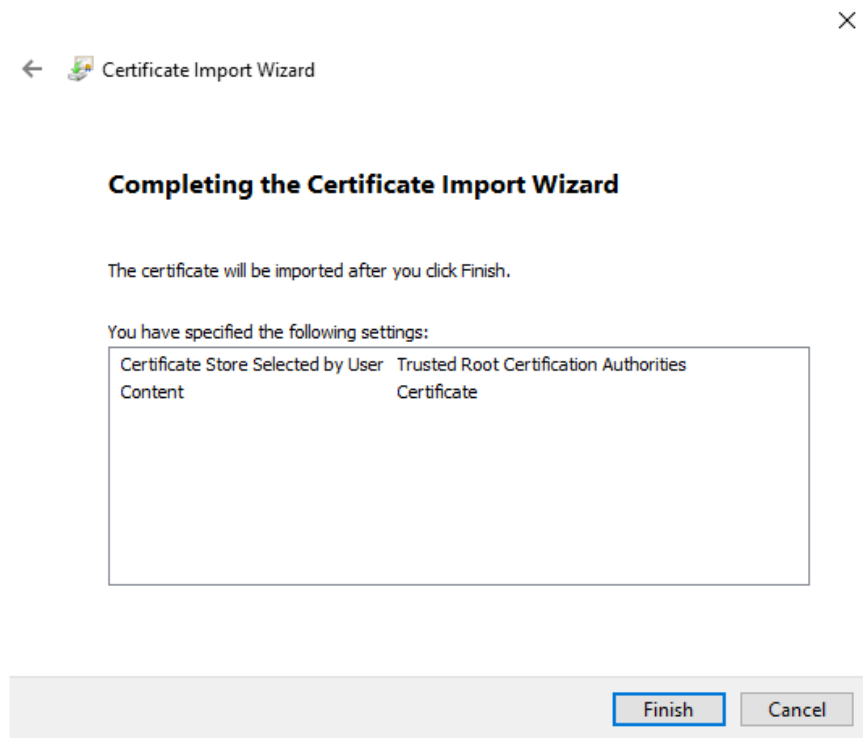

Figure 60: Certificate Import Completed
11. On the dialog that appears (Figure 60), click **Finish**.